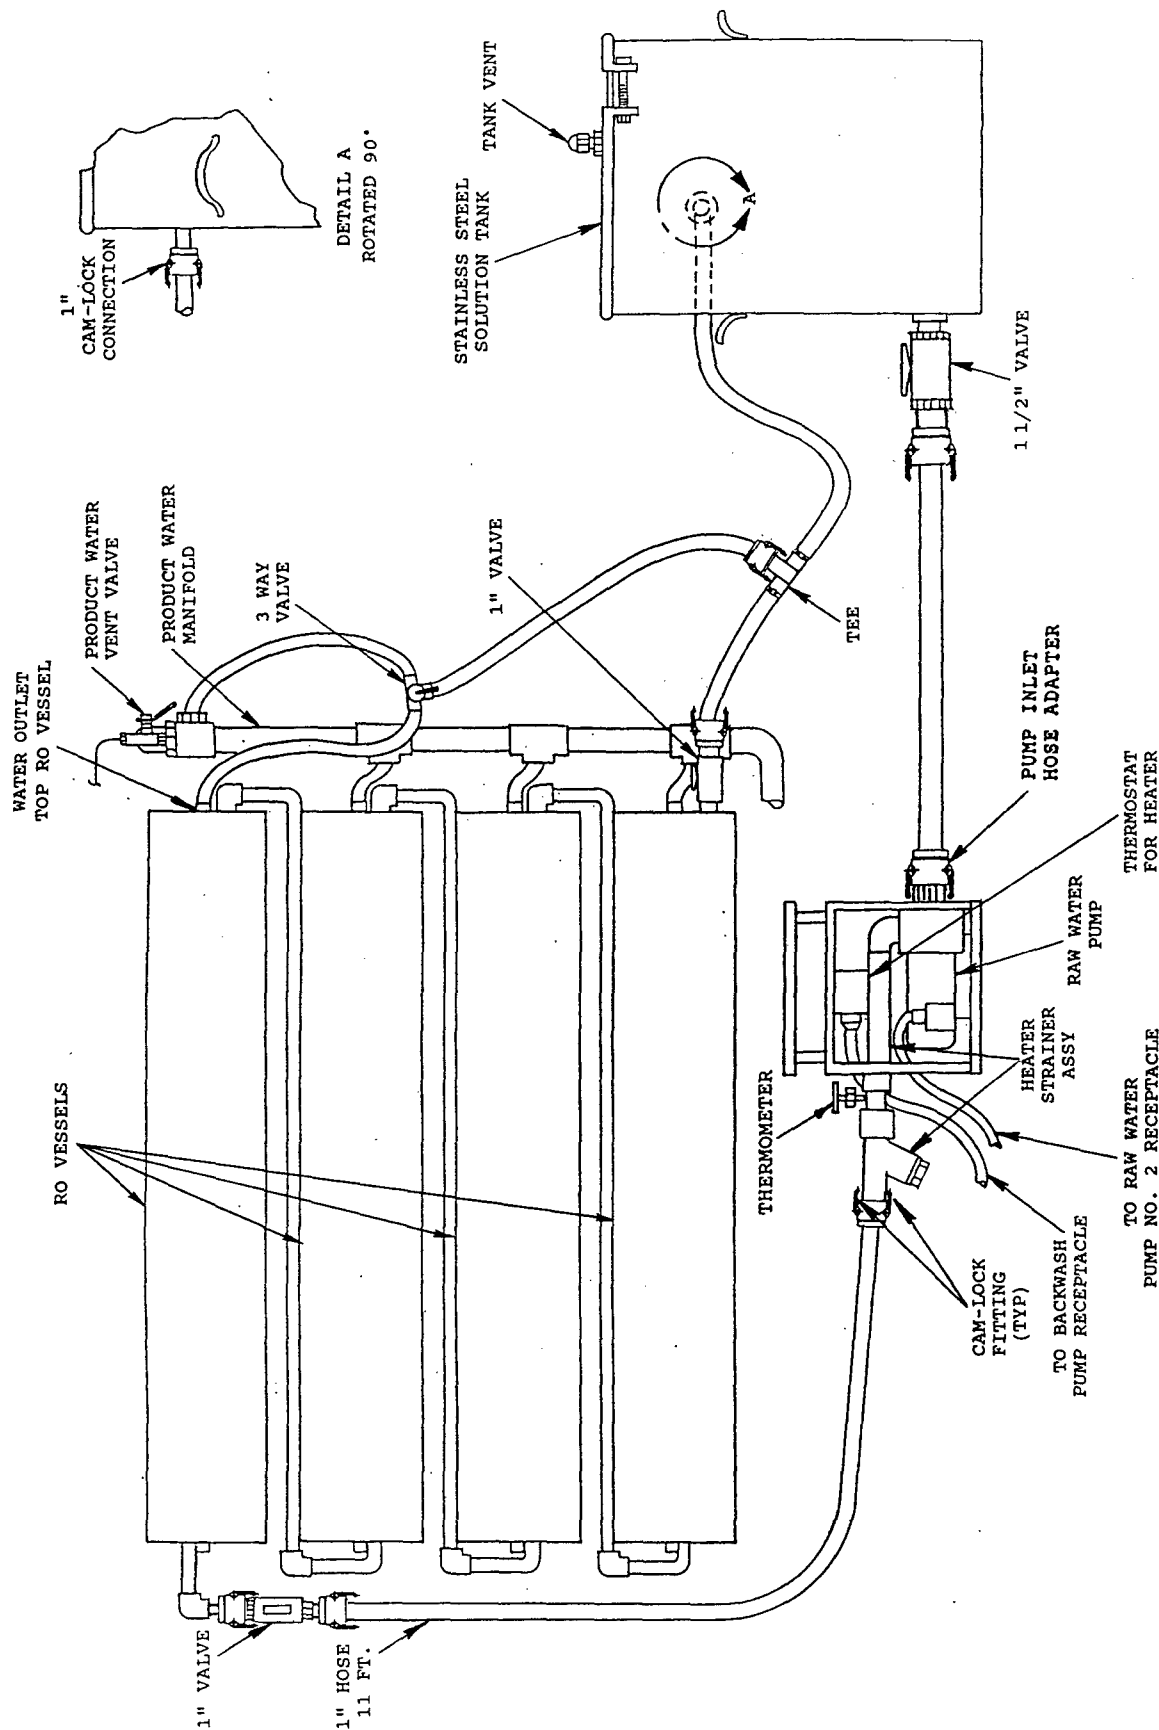

Figure 2-13. Preservation/Cleaning Configuration.
- 2-1.1 Preservation Configuration. For preservation, the configuration of the hoses, pump, and solution tank are identical to the cleaning configuration for both the mixing and recirculation procedure. The preservative recirculation configuration is shown in figure 2-13. Orientation from the solution tank 1-1/2 inch outlet located at the bottom of the tank should be the following:
- a. Connect components as shown in figure 2-13, the preservative recirculation configuration.